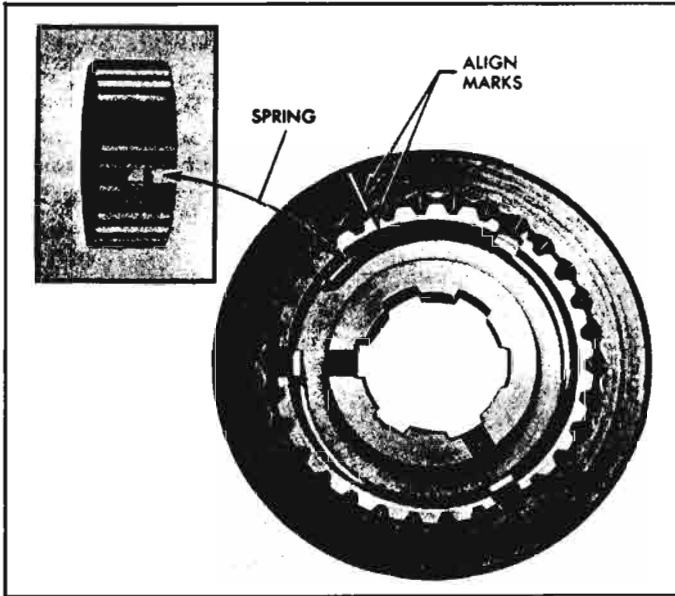

Fig. 6D-40—Synchronizer Spring and Hub Installation
2. Place the two springs in position (one on each side of the hub), so a tanged end of each spring falls into the same keyway in the hub (inset, fig. 6D-40). Holding keys in position, align etched marks (fig. 6D-40), in hub and sleeve, then slide hub into sleeve. Be sure etched marks align after assembly.